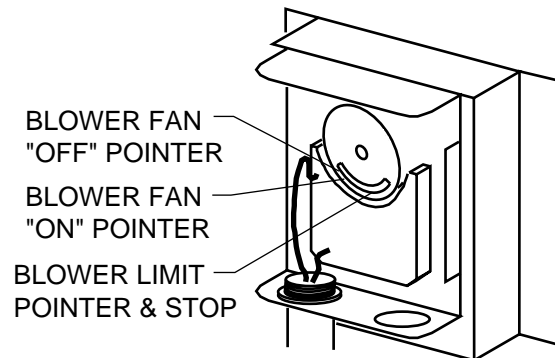

Fig. 12
f) Connect electrical supply in the electrical junction box that is mounted on the back of the Model 1321 Furnace. See Wiring Diagram (Fig. 12 or Fig. 13). Remove the cover from electrical junction box and connect power supply wires to wires designated, using wire nuts. The power cord supplied may be used for installation, if permitted by local codes and regulations. If the power cord supplied cannot be used, the power supply wiring must be 90 degrees centigrade in a metal cable and should be completed by a qualified installer complying with NFPA Standard No. 70 and local codes.
The temperature in the plenum of the warm air furnace at which the blower turns on or turns off, is controlled by the setting of the pointers in the blower limit control. (See Fig. 12) These pointers may be adjusted to achieve the desired warm air output from the furnace. (See Fig. 12 Below)